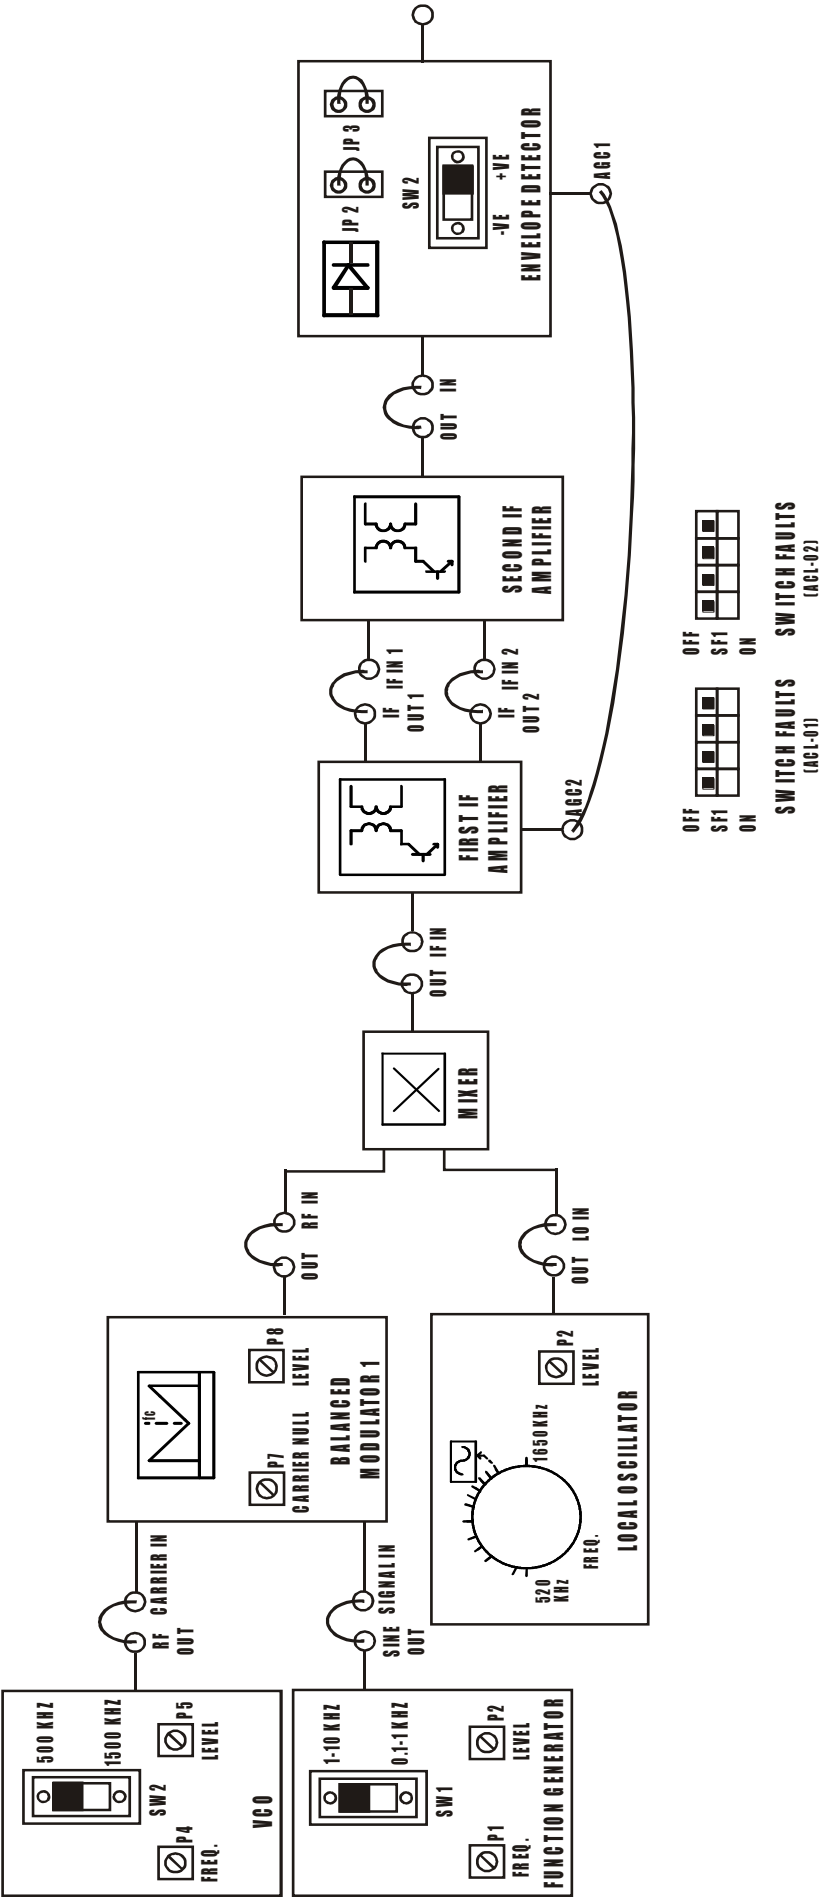

FIG. 2.8 BLOCK DIAGRAM FOR STUDY OF DSB AM RECEPTION USING ENVELOPE DETECTOR VIA CABLE
1. Refer to the FIG. 2.8 & Carry out the following connections.